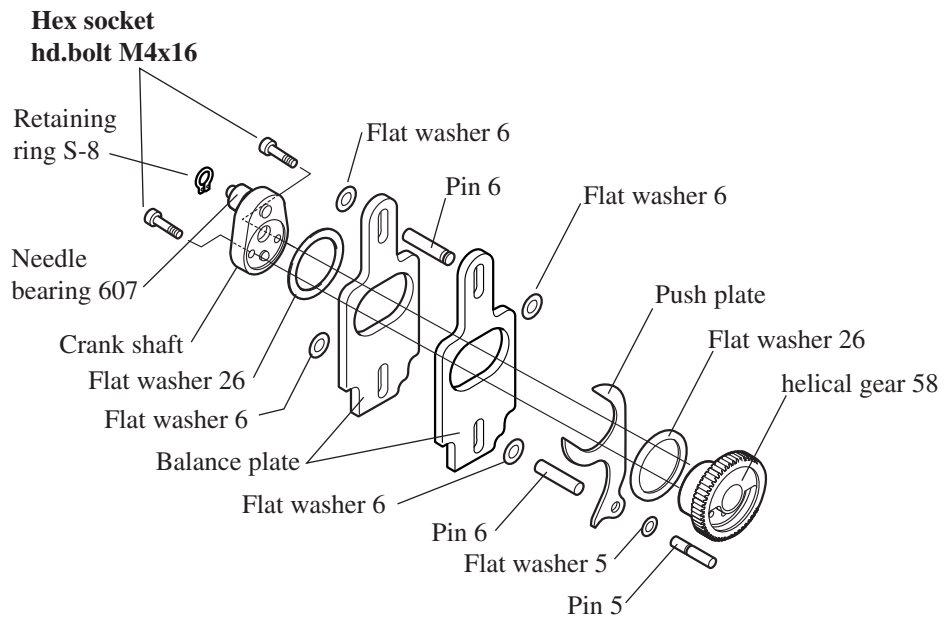

Fig. 6
3) Assemble the internal parts as shown in Fig.6, and joint crank complete and helical gear 58 by tightening hex socket hd.bolt M4x16